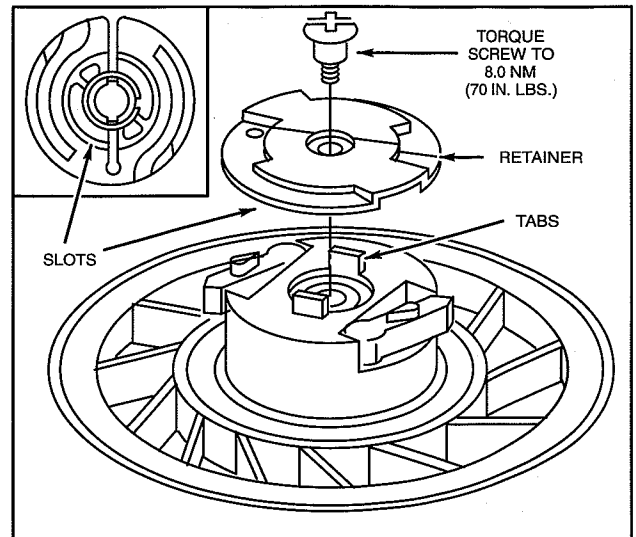

Fig. 15 – Install Retainer – Current Style
2. Install retainer making sure that slots in retainer engage tabs on pulley, Fig. 15.